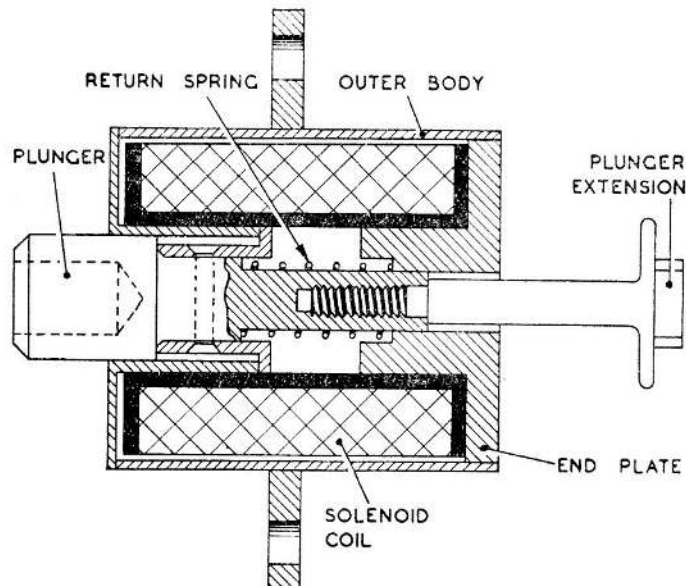

Fig. 1. Sectional view, solenoid, Type 6CE/1929A
2. The solenoid (*fig. 1*) comprises an outer cylindrical body, carrying a fixing flange and containing the solenoid coil. The coil fits over the boss of a special end plate; this end plate is attached to the outer body by three countersunk screws screwing into it. The plunger, sliding within the coil, has an extension spindle screwed into it carrying a spring which serves to return the plunger to the normal extended position when the coil is de-energized. In its application as a lever lock the plunger serves as a bolt which locks the selector for the alighting gear in a certain position. On the coil being energized the plunger (or bolt) is withdrawn and the "up" movement of the lever is able to be continued.